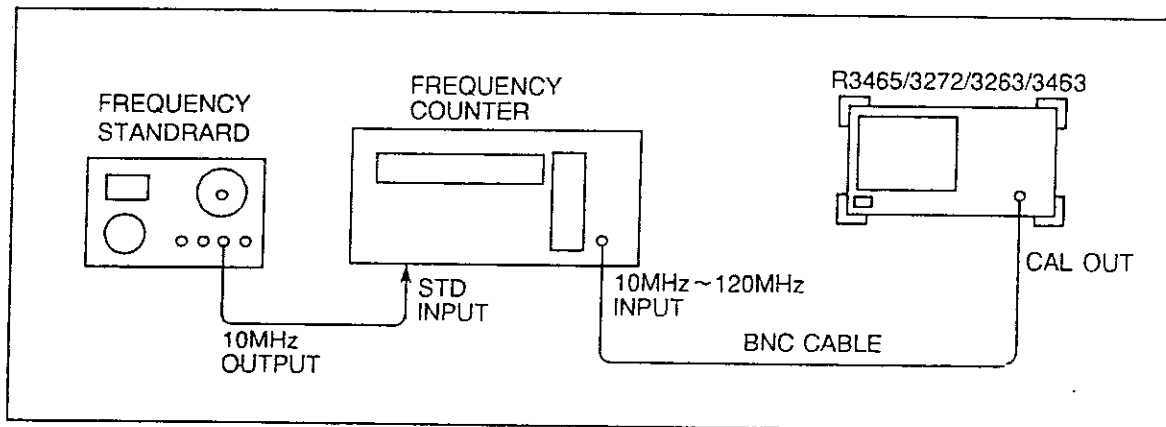

Figure 1-2 Frequency Reference Accuracy Test Setup
- (1) Connect the equipment as shown in Figure 1-2.
- (2) Set the Frequency counter controls as follows: